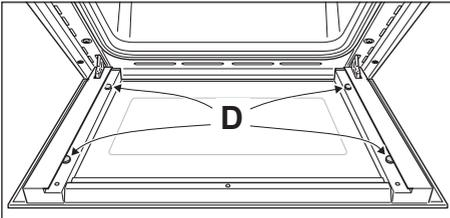

Figure 46
- Check that the four rubber pads are in place (“D” in fig. 46).